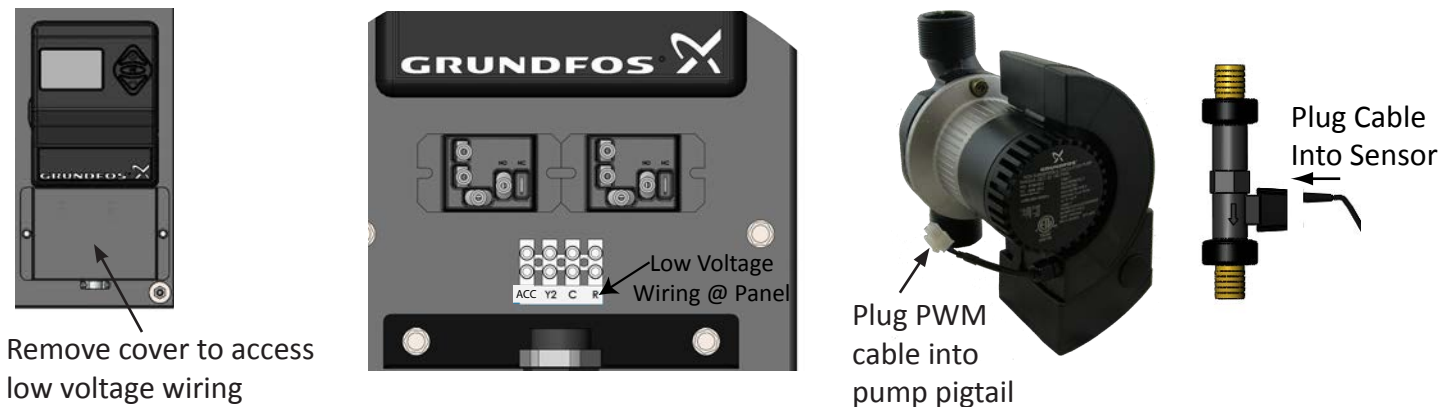

Figure 2: Low Voltage Wiring
3. Complete heat pump piping. If using a flow sensor (Figure 2, right hand side), cut a small piece of hose (6" to 8") to connect between the barbed connection at the flow center and flow sensor. If the package does not use a flow sensor (temperature difference control only), the small piece of hose is not needed. Then, cut the remaining amount of hose as needed for connections to/from the heat pump and flow center.
4. Connect pump PWM cable and flow sensor. Plug the PWM cable into the pump pigtail (Figure 2). If the flow sensor is included, plug the cable into the flow sensor (cable is pre-wired to controller -- see Figure 2, right hand side).
5. Wire low voltage connections at flow center. Remove the access cover at the flow center (Figure 2) to access the low voltage connections. Run 4-conductor thermostat wire from the flow center to the heat pump. Connect ACC, Y2, C and R (Y2 needed only for flow centers with flow sensor).
Low Voltage Connection at Flow Center Panel (see Figure 2)	Heat Pumps with Communicating UPM Board*
Low Voltage Connection at Flow Center Panel (see Figure 2,)	Heat Pumps with Non-Communicating UPM Board